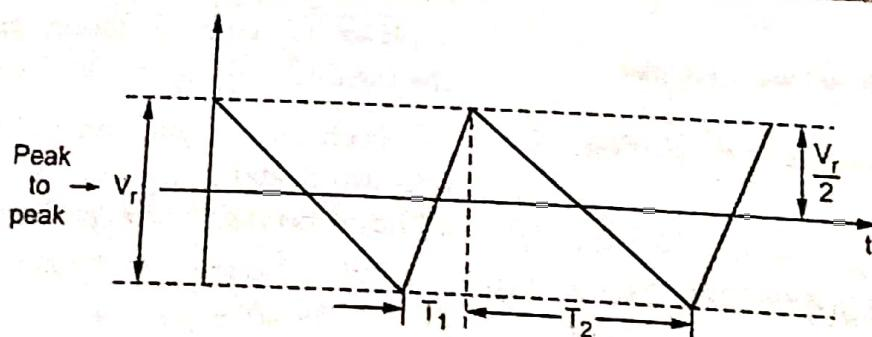

Fig. Q.27.1
- Consider an output of full wave rectifier using capacitor filter as shown in the Fig. Q.27.1.
- The Fig. Q.27.1 shows triangular approximation of ripple voltage.